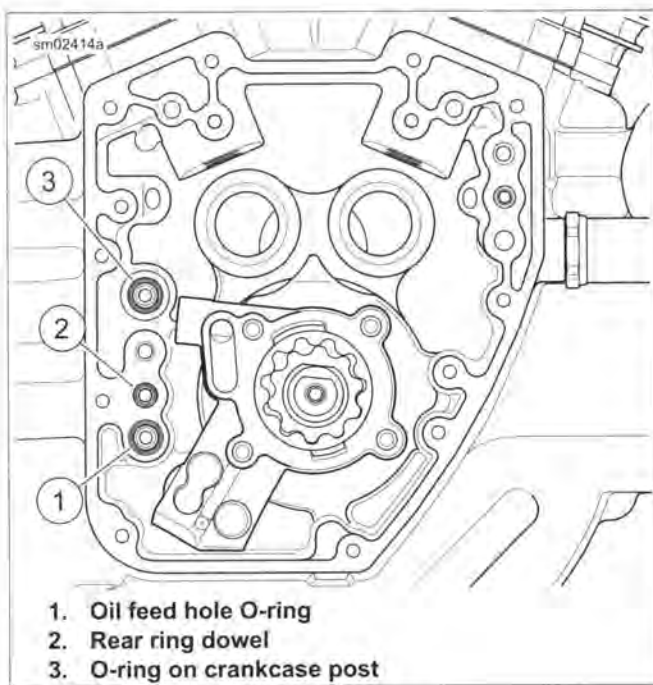

Figure 3-99. Oil Feed Hole
1. See Figure 3-99. Apply a thin film of SCREAMIN' EAGLE ASSEMBLY LUBE to **new** O-ring (1). Install in groove.